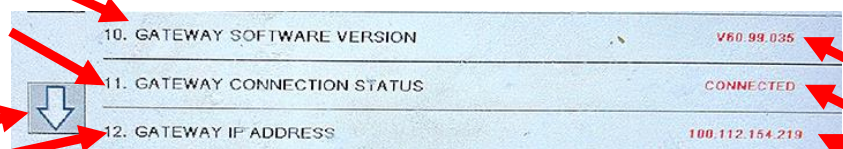

Figure 31
8. The **GATEWAY IP ADDRESS** is shown. The **GATEWAY SOFTWARE IP ADDRESS** should have some numbers that are **NOT ALL ZEROS** (see Figure 31). **NOTE: The IP address WILL be different than shown (see Figure 31).** If only zeros are shown, power cycle the entire fryer battery and wait 5-10 minutes before checking the software version and IP address again. **NOTE: An IP address should NOT start with 4 or 82.** If so, then it is not connected. If is **NOT** connected, repeat steps 1-7 of this section. If after two tries of loading the software and the version above is **NOT** displayed, go to STEP 5 (Troubleshooting) on the last page.
9. Press the down arrow button (see Figure 31).